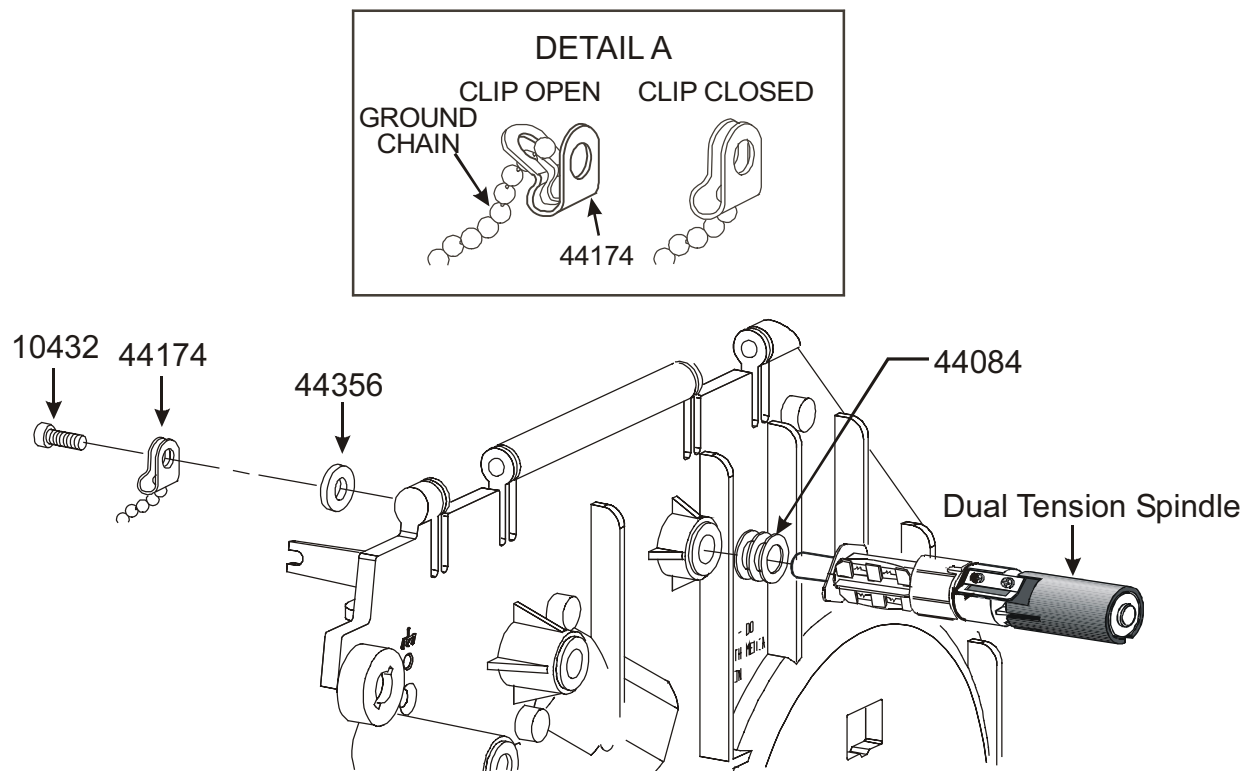

Figure 7.
28. Slightly open the chain clip as shown in Detail A of Figure 7.
31. Install the new dual-tension spindle assembly as shown in Figure 7.